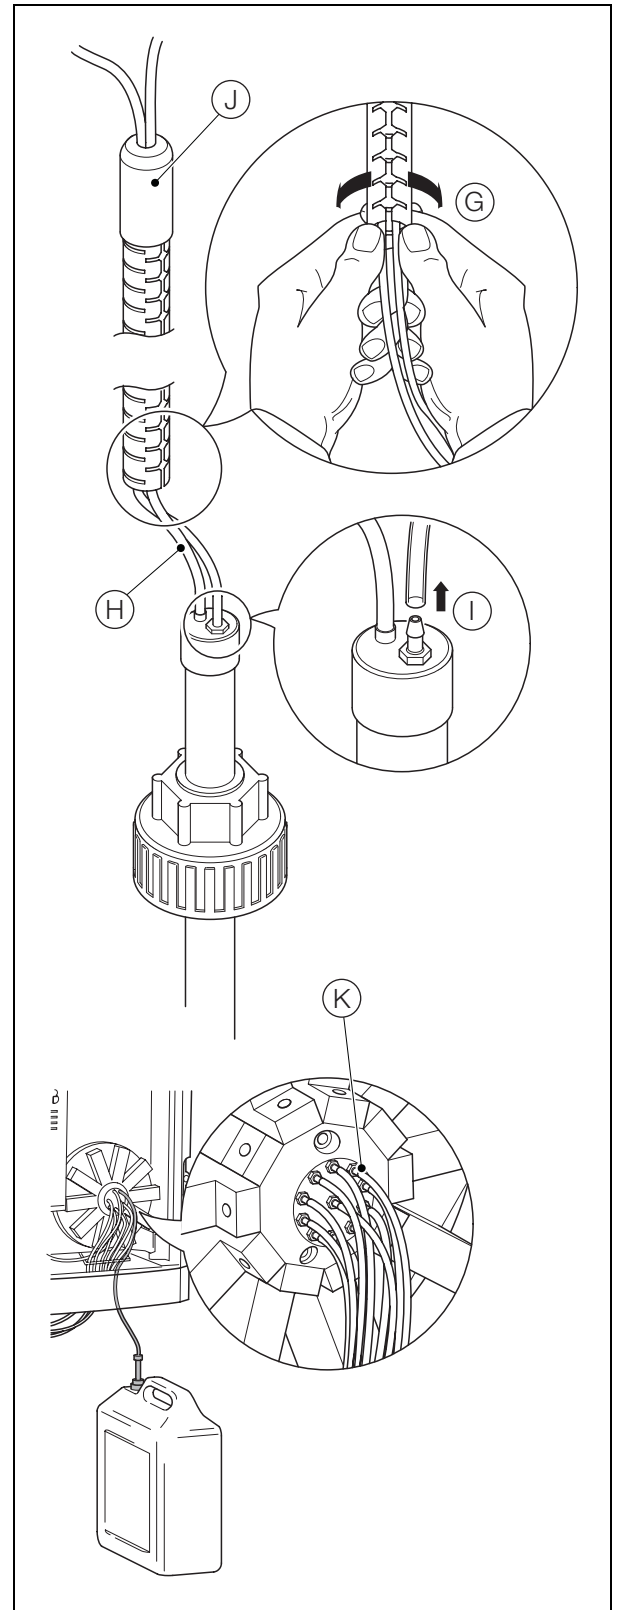

Fig. 12.7 Replacing Reagent Tube
4. Referring to Fig. 12.7:
- b. Remove the spiral wrapping (G) from the reagent tube and level sensor cable (H).
- c. Disconnect the tube from the level sensor (I) and withdraw the tube from the rubber boot (J).
- d. Insert the new tubing through the rubber boot (J) and route the tubing into the analyzer as noted in step a. Connect the tubing to the R1 connector on the valve manifold (K).
- e. Refit the spiral wrapping (G).
- f. Cut the tubing to the required length and connect it to the level sensor (I).